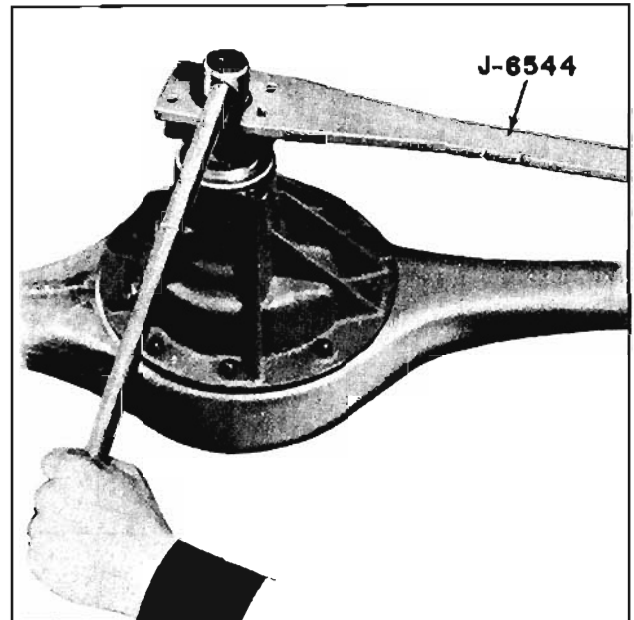

Fig. 10-8 Removing Companion Flange Nut
3. Remove companion flange nut, using Tool J-6544 to hold flange. (Fig. 10-8) Remove washer.
4. Remove companion flange nut using Holding Tool J-6544 to hold flange. (Fig. 10-8)